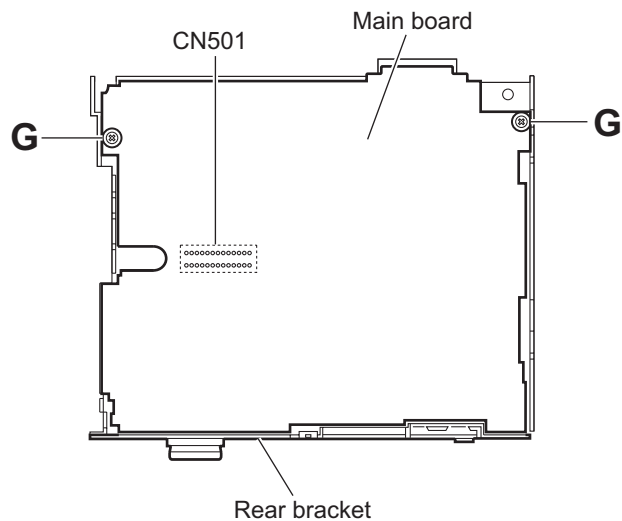

Fig.6
- (2) Remove the two screws **G** attaching the main board. (See Fig.6.)
- (3) Disconnect the connector CN501 on the main board from the main body and take out the main board with the rear bracket. (See Fig.6.)